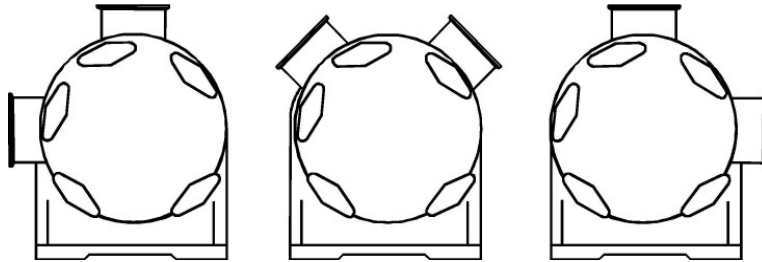

Figure 2 – Nozzle Position
2. The suction and discharge nozzles on the pump housing will always remain 90° apart. However, the pump housing can be rotated in 45° increments to suit your desired nozzle positioning and process needs. Refer to Figure 2 for the three positioning options and to page 22 for instructions on how to rotate the pump housing.